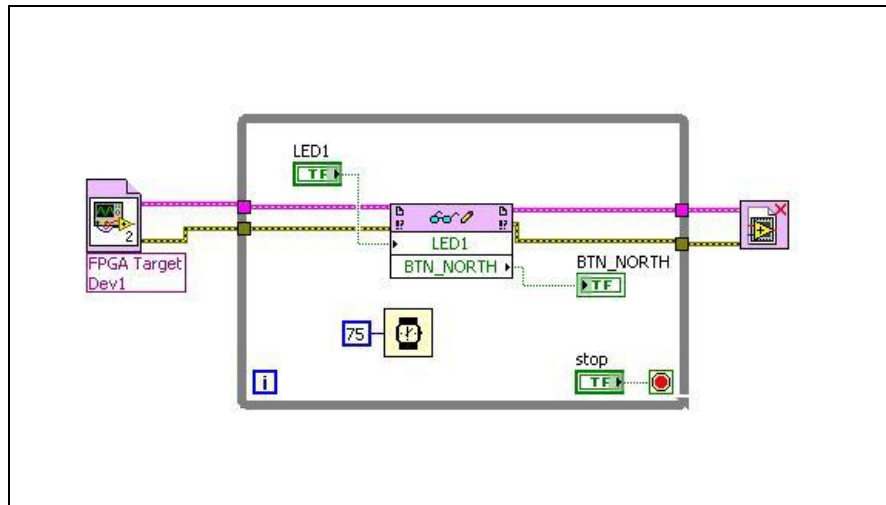

Figure 16: LV FPGA Host VI
11. Your host VI should look similar to Figure 16. Save your host VI as "FPGAHost".